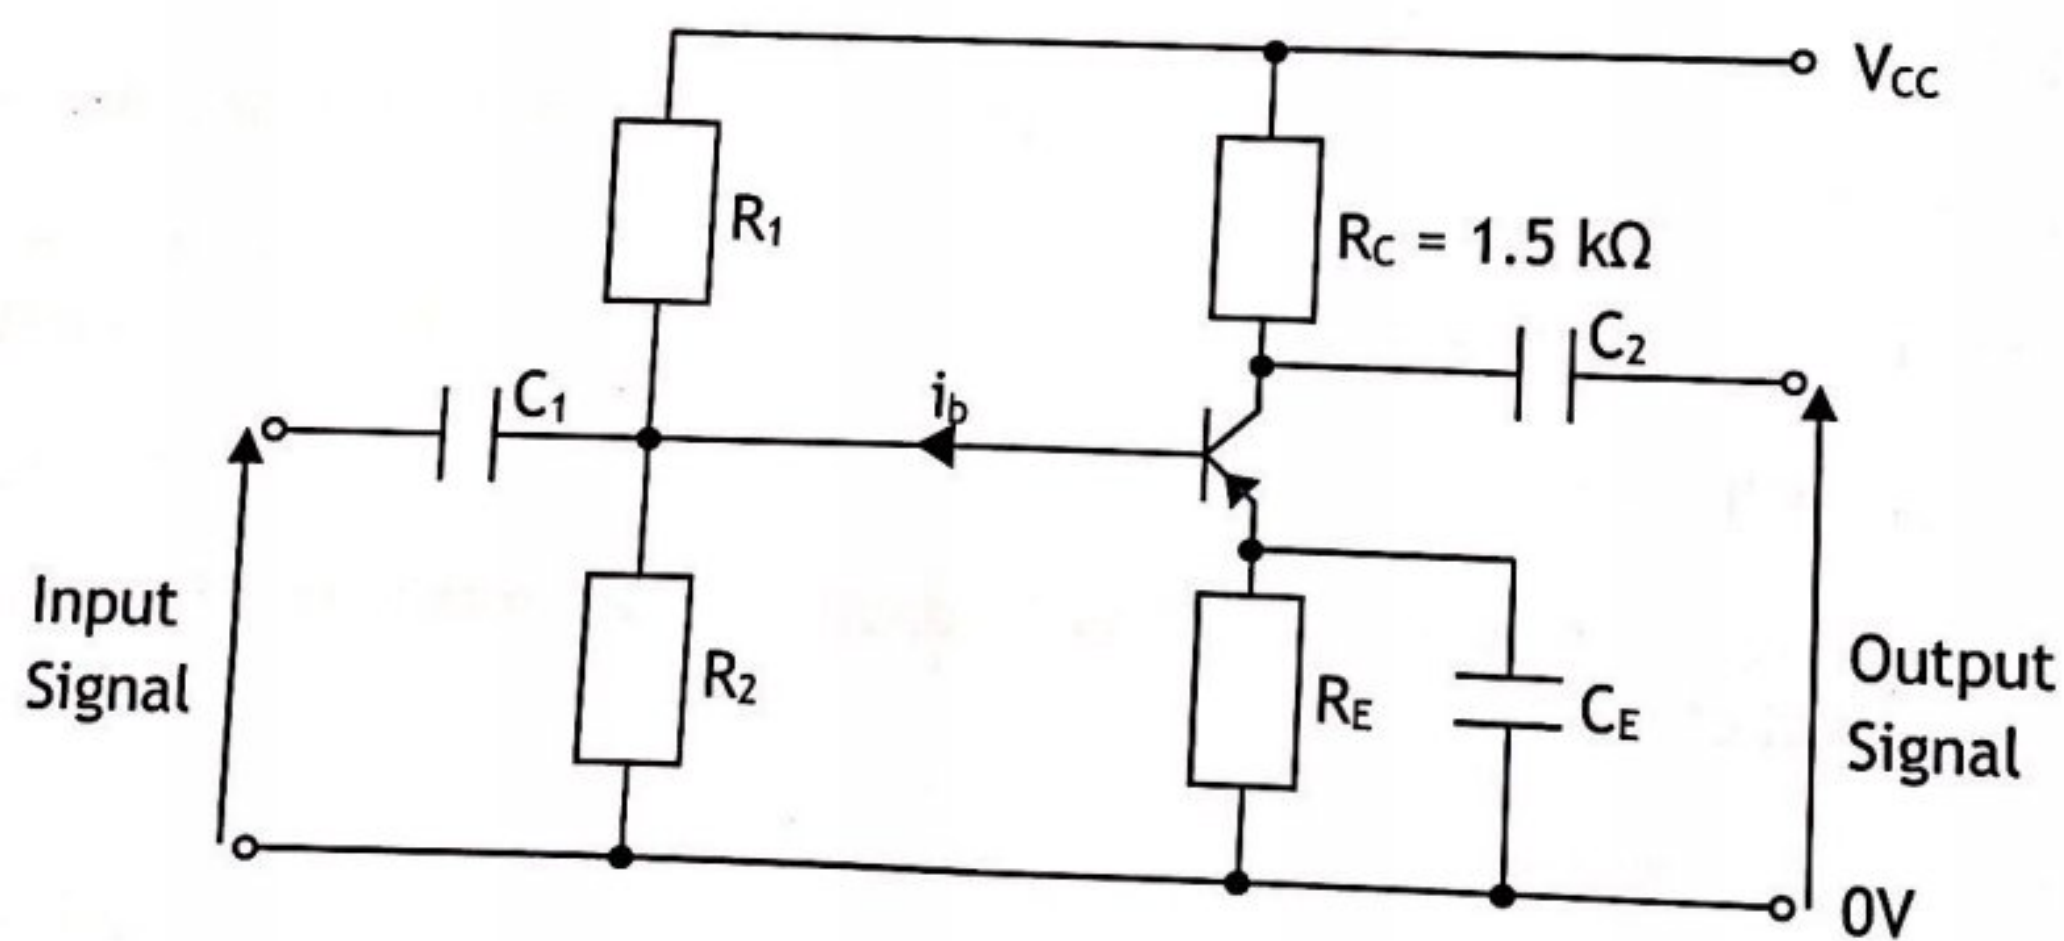

Fig Q9
9. Fig Q9 shows a bipolar common emitter transistor amplifier.